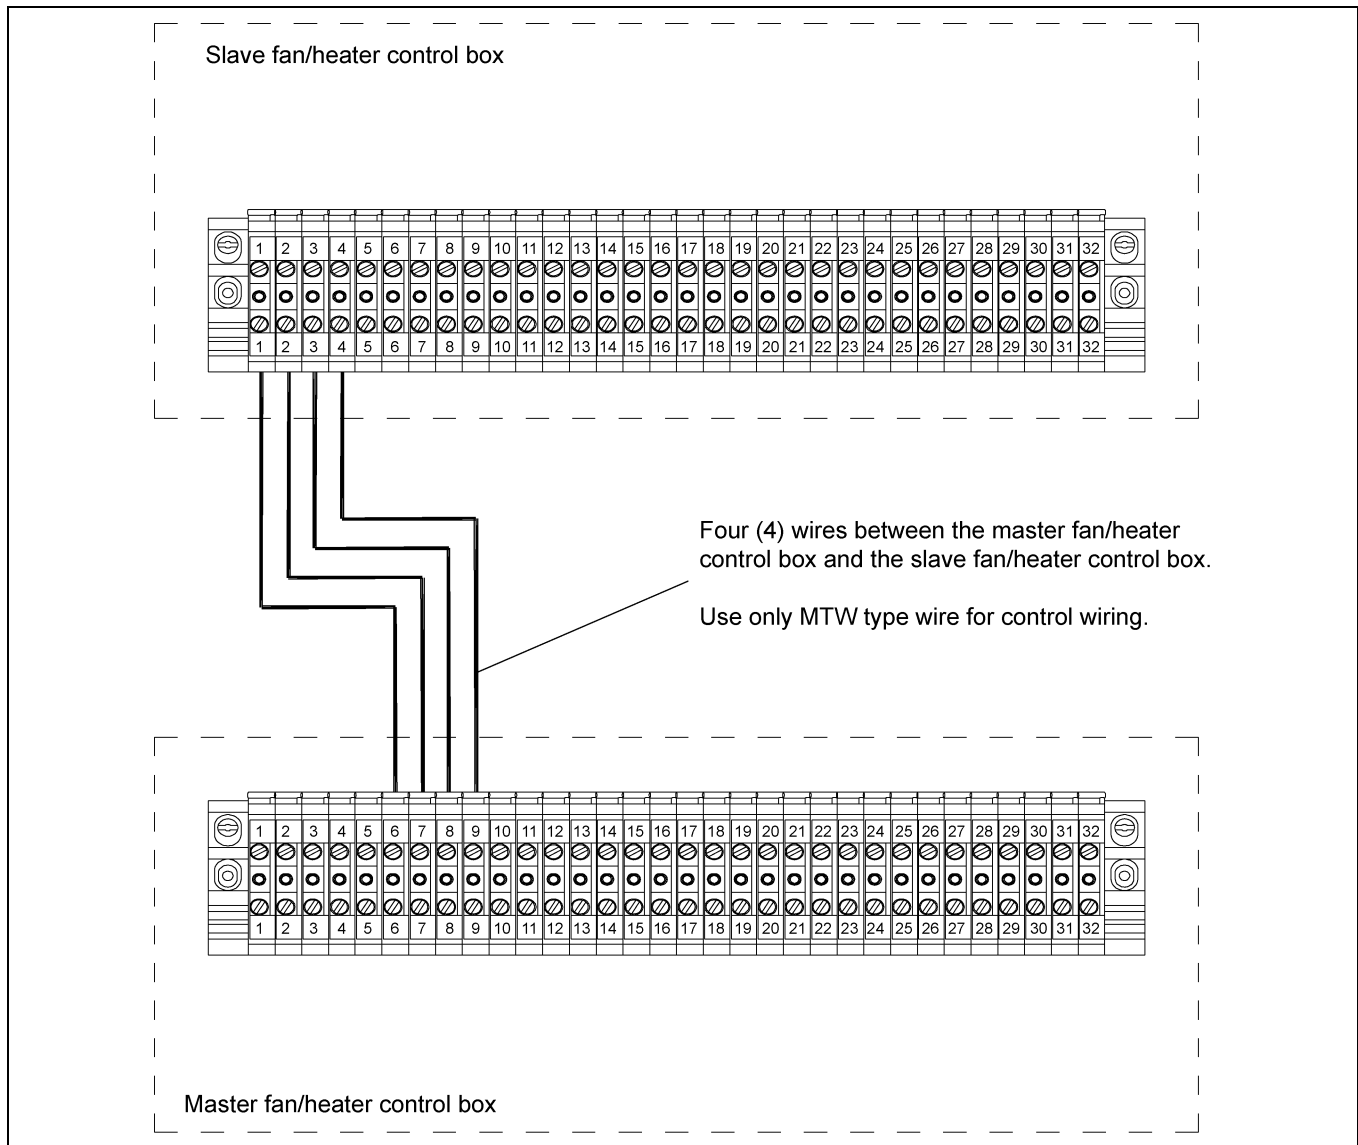

Figure 4L Wiring for a slave fan/heater unit to a master fan/heater unit.
1. Run four (4) 16 gauge MTW type wires from the master fan/heater unit to the slave fan/heater unit.
2. Connect the wires as shown in Figure 4L.